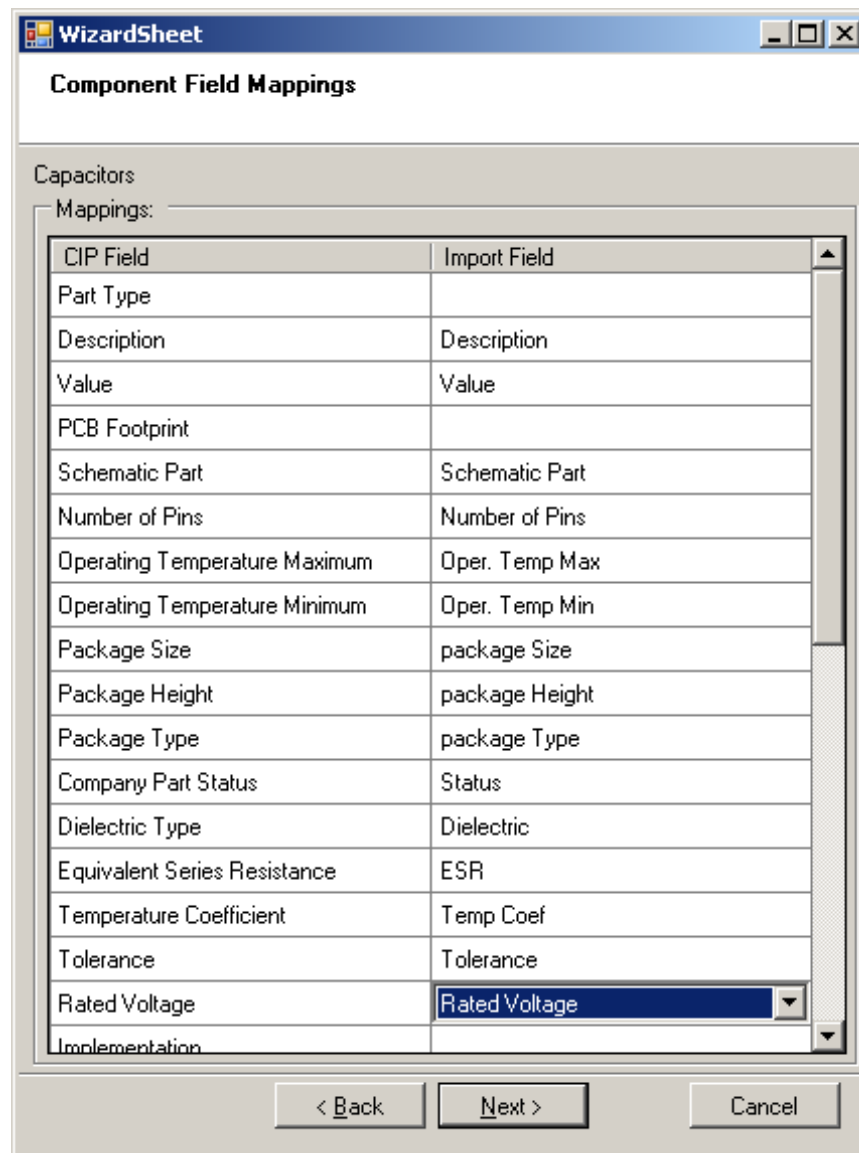

Figure 9: Sample Component Field Mapping
- Sample.csv – Sample file that match mappings shown in Figure 8 and Figure 9